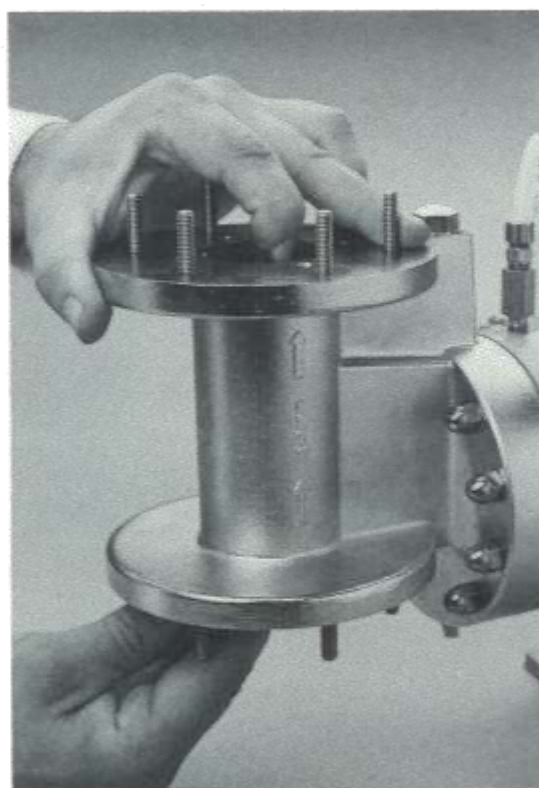

FIGURE 6.
8. Pick up on edge of the HYDRATUBE flange (Figure 6) and push that same edge down the throat of the HYDRATUBE. The balance of the flange will fold and follow.